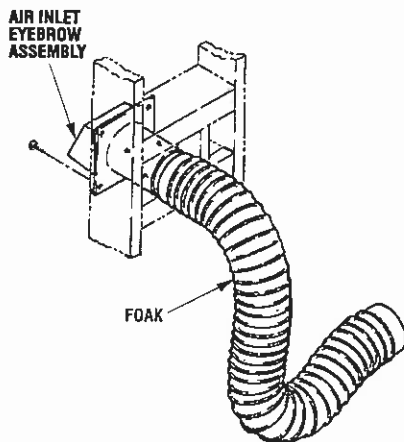

Figure 48
**CAUTION: AVOID INSTALLING THE AIR INLET WHERE THE OPENING COULD BE BLOCKED BY SNOW, BUSHES OR OTHER OBSTACLES. THE MAXIMUM HEIGHT FOR THE OUTSIDE AIR IS 50 FEET ABOVE THE HEARTH, PROVING THE AIR INLET IS TERMINATED A MINIMUM OF THREE (3) FEET BELOW THE CHIMNEY CAP LEVEL.**
**Step 2.** Install the air inlet eyebrow (FOAK-4 or FOAK-4LD) through the wall opening (see Figure 48). Push a 4 inch diameter NON-COMBUSTIBLE Class 0 or Class I flexible duct onto the eyebrow.